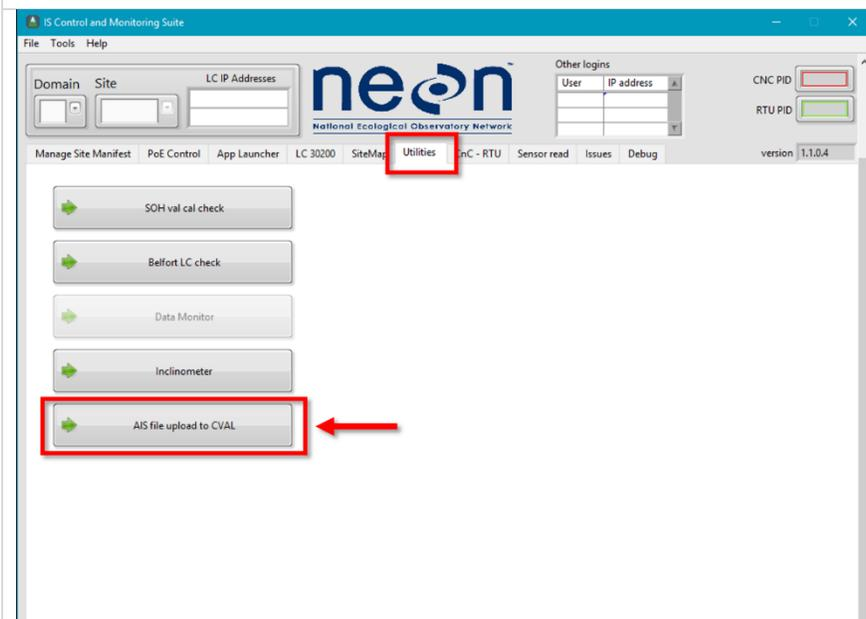

Figure 141. Navigate to the utilities tab and select "AIS file upload to CVAL"
**STEP 2** | Navigate to the **Utilities** tab and select "AIS file upload to CVAL" (**Figure 141**).